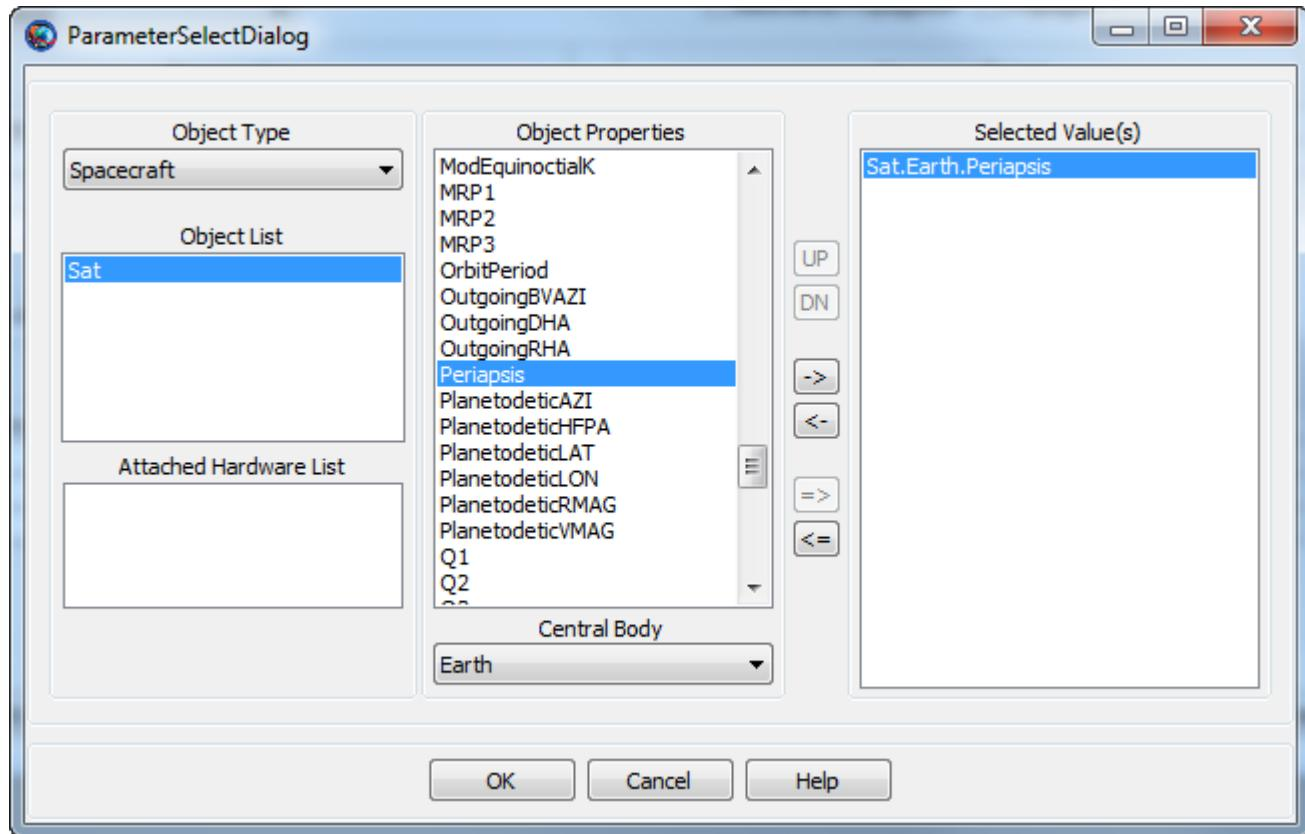

Figure 15. Propagate Command ParameterSelectDialog Configuration
5. In the **Object Properties** list, double-click **Periapsis** to add it to the **Selected Values** list. This is shown in Figure 15.